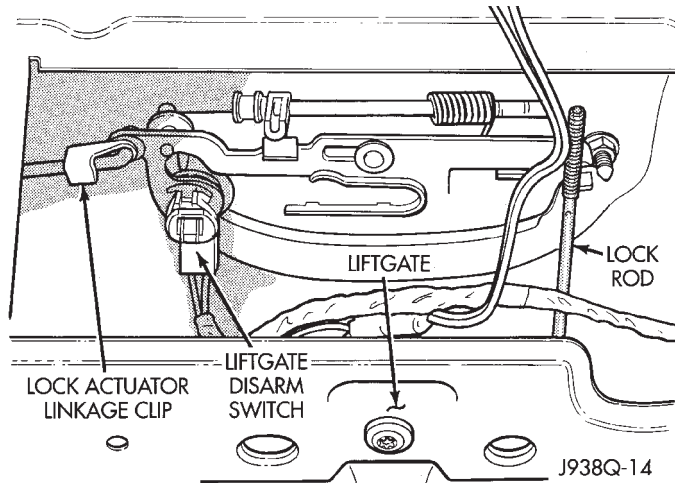

Fig. 8 Lock Actuator Motor Linkage Remove/Install
(4) Disconnect the lock actuator motor linkage clip at the liftgate latch handle (Fig. 8).